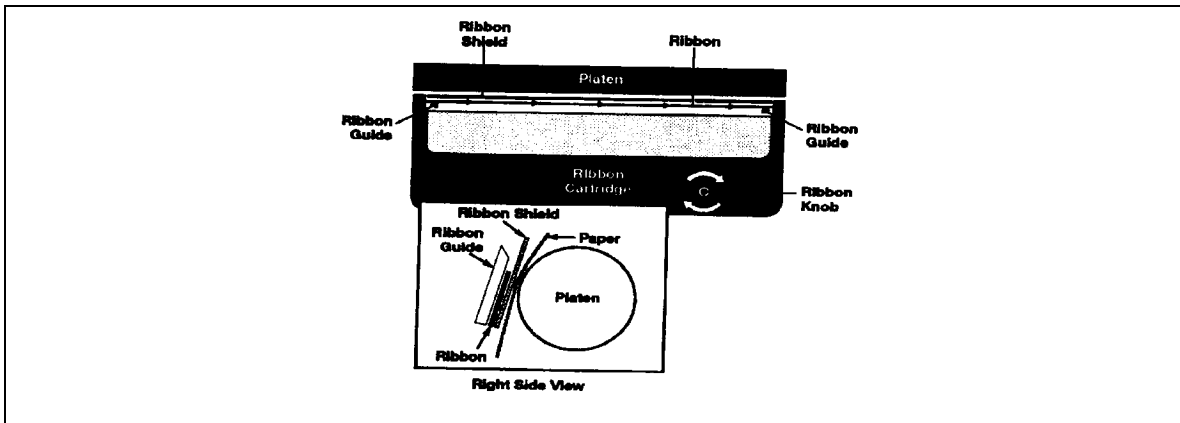

Figure 3-5. Ribbon and Platen Assembly.
- (1) Open the printer lid and raise the form thickness lever to the full-open position.
- (2) Locate the ribbon as shown in figure 3-5. Remove slack in the ribbon by turning the knob on the ribbon cartridge clockwise, and then slip the ribbon between the two ribbon guides and the ribbon shield on the printer.